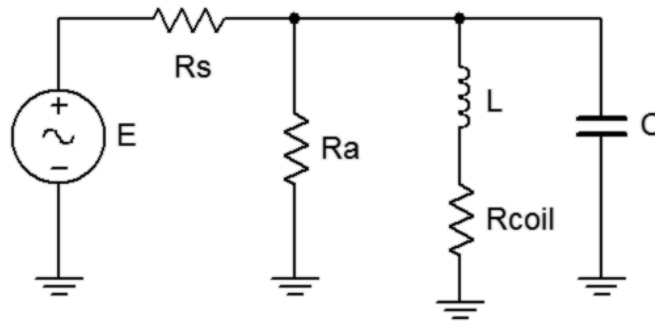

Figure 14.1
1. Using Figure 14.1 with $R_s=100\text{ k}\Omega$, $R_a=2.2\text{ k}\Omega$, $L=10\text{ mH}$, $R_{\text{coil}}=7\text{ }\Omega$ and $C=10\text{ nF}$, determine the theoretical resonance frequency and Q , and record the results in Table 14.1. Based on these values determine the upper and lower frequencies defining the bandwidth, f_1 and f_2 , and record them in Table 14.1 also.
2. Build the circuit of Figure 14.1 using $R_s=100\text{ k}\Omega$, $R_a=2.2\text{ k}\Omega$, $L=10\text{ mH}$ and $C=10\text{ nF}$. Set the output of the generator to a 10 V p-p sine wave at the theoretical resonant frequency. The large value of R_s associated with the voltage source will make it appear as a current source equal to approximately 100 μA p-p, assuming the parallel branch impedance is much less than R_s . Place a probe across the parallel branch. Set the frequency to the theoretical resonance frequency of Table 14.1. Make sure that the *Bandwidth Limit* of the oscilloscope is engaged for both channels. This will reduce the signal noise and make for more accurate readings.